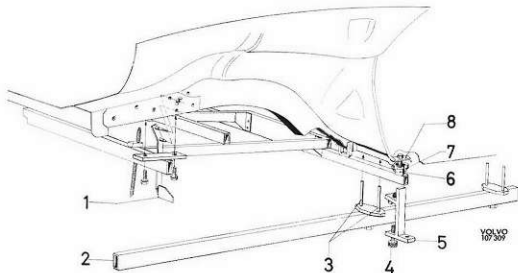

Fig. 8-8. Tools for replacing side members
1. Set up the fixture 2777. The rear guide pins with the guides 5001 and 5002 (7, Fig. 8-8) fit in the holes in the floor plating and are held in position by clasps (8).
2. Screw the holder 2893 (5) to the side-member, with a bolt in the second attaching hole from the front for the rear engine mounting.
3. Place the straight edge 2891 (2) immediately under the side-member so that the front support studs (3) are immediately behind the member for the jack attachment. Rotate the support studs
4. The measuring arm 2892 (1) is secured to the side-member by studs in both the front attaching holes for the steering gear and idler arm. On the right member place the measuring arm on the outside, and on the left one on the inside.